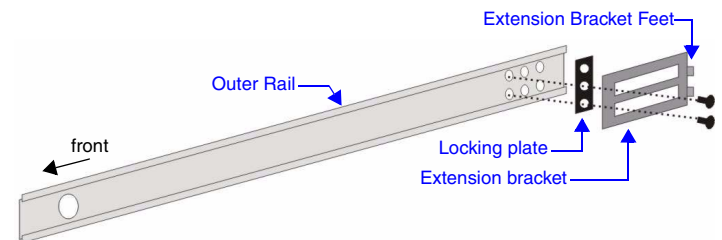

FIG. 3 Attaching the Extension Bracket to the Outer Rail (using a Locking Plate)
1. Attach the *Extension Bracket* to the *Outer Rail* using the *small/long* screws and a 3-hole Locking Plate, as shown in FIG. 3. Select the type of locking plate (large or small holes) that works best with the rack you are using.